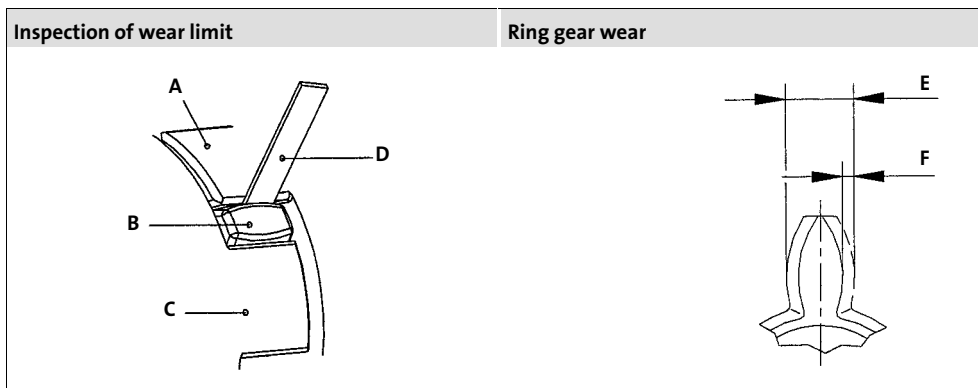

Fig. 6 Inspection: wear
1. Remove the screw plug (item 1) for the wear and backlash check.
2. Check the clearance between clutch hub and elastic ring gear with a feeler gauge (Fig. 6).
4. After performing the test, the opening (item 1) must be closed again with the screw plug.